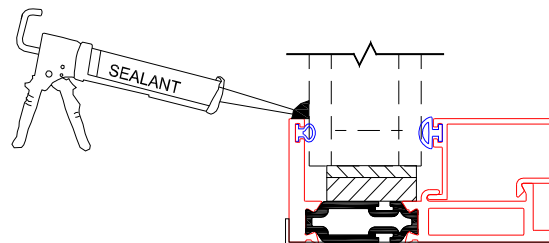

Figure 13:
2. After glazing, apply a continuous bead of sealant to the frame and glass (Figure 13).